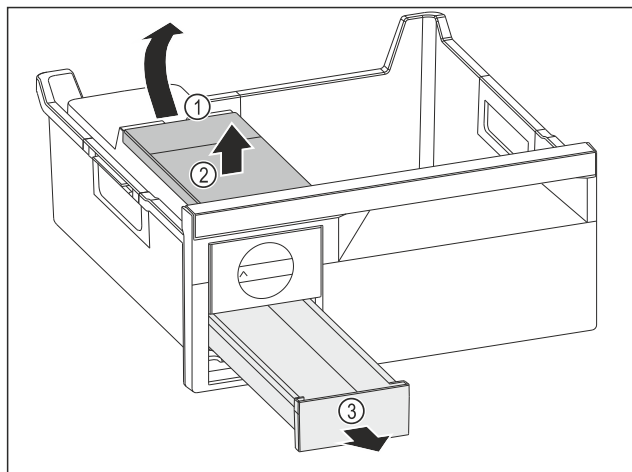

Fig. 144
- Removing the water tank: Lift the water tank by the recess Fig. 144 (1).
- Remove the water tank Fig. 144 (2) upwards.
- Remove the ice cube drawer Fig. 144 (3) to the front.